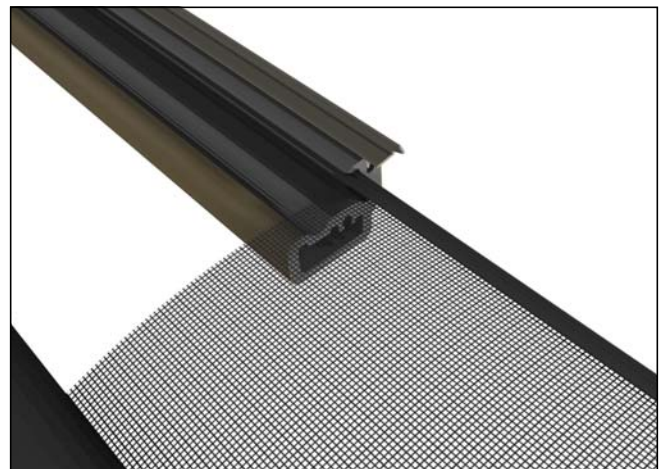

Figure 34
8. Slide the new pull bar onto the screen mesh. See figure 34.